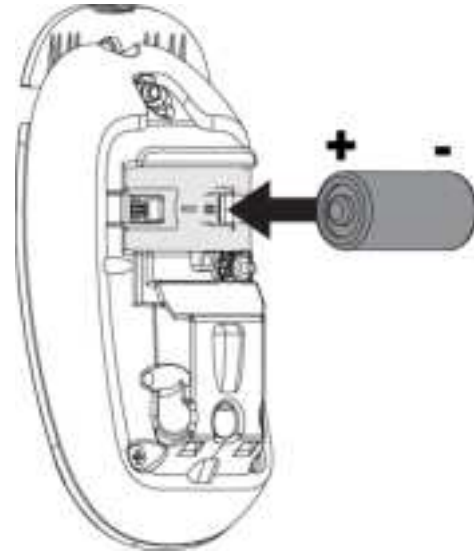

Figure 6 Install the battery
6. Install the battery per Figure 6.